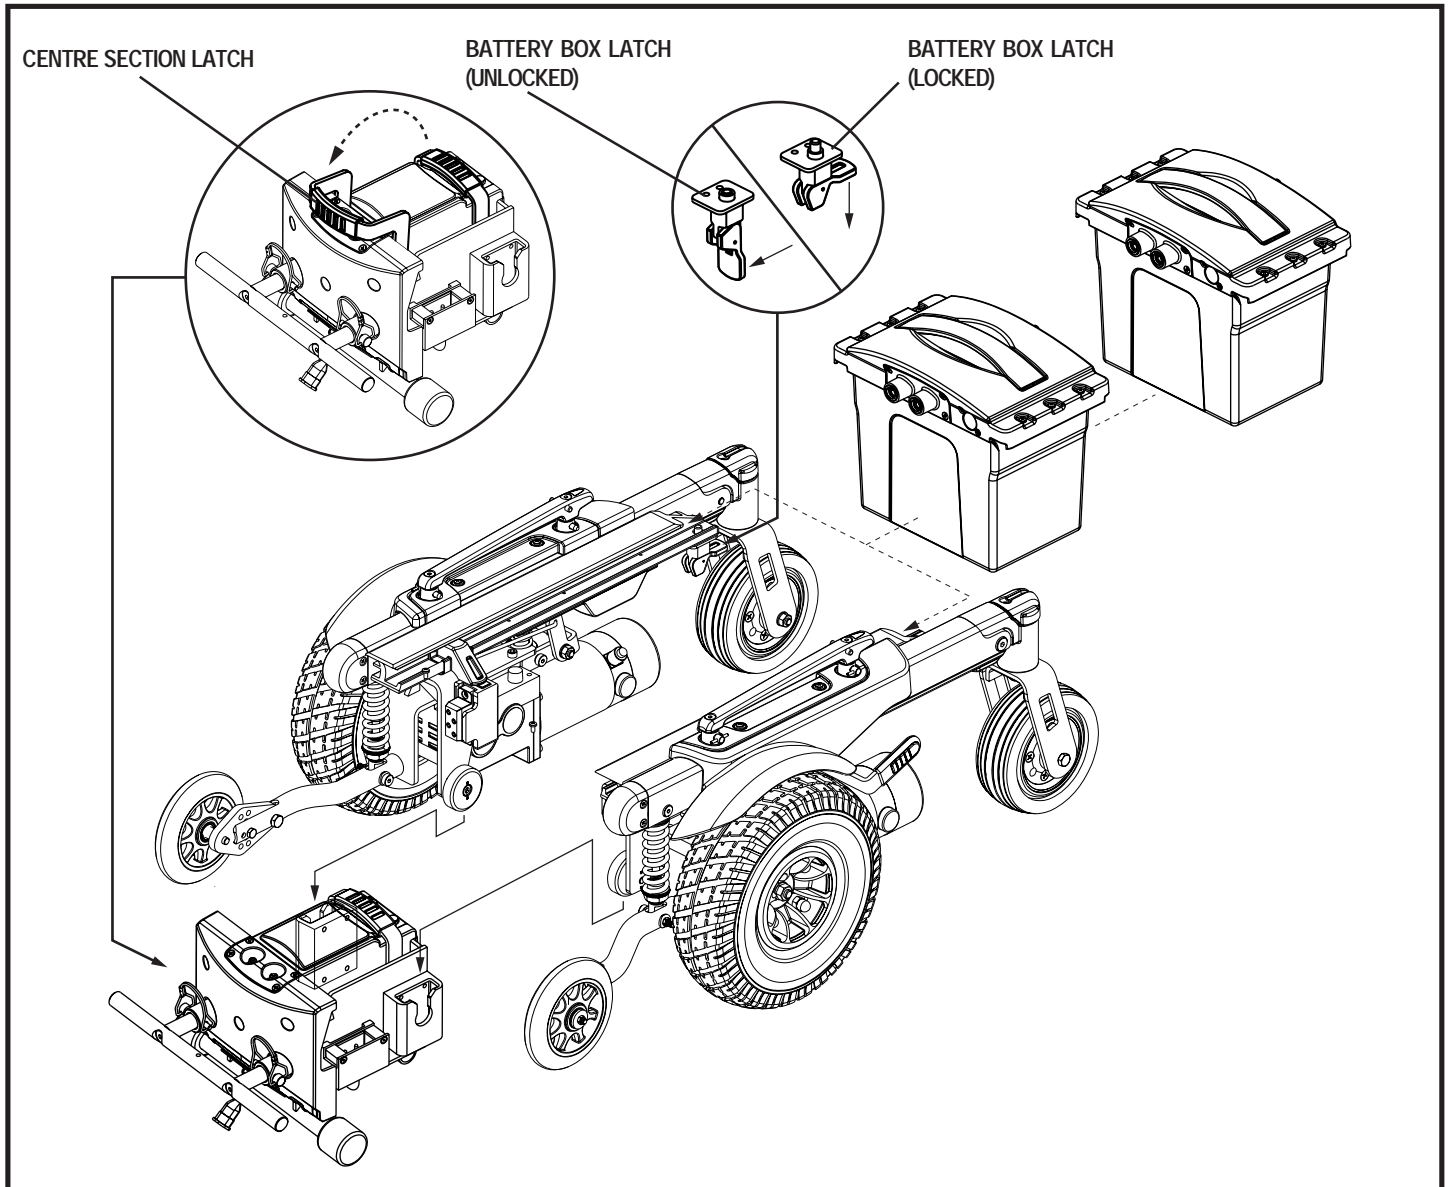

Figure 14. Battery Box Removal and Frame Separation
5. Flip down the battery box latches on each side of the power base. See figure 14.
7. Flip up the centre section latch. See figure 14.